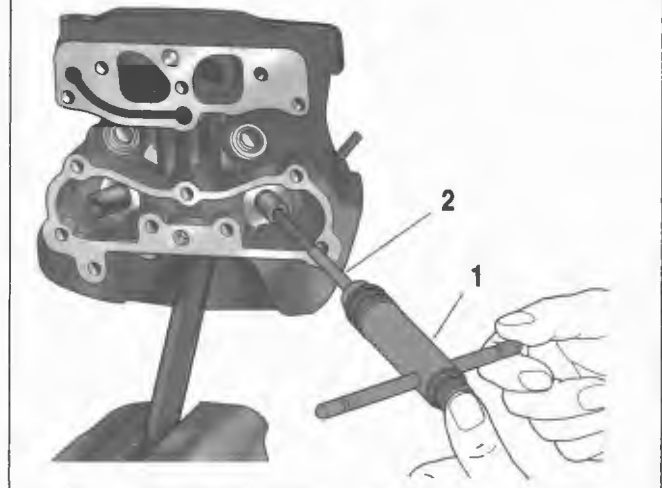

Figure 3-104. Reaming Valve Guide Bore
5. See Figure 3-104. Obtain the VALVE GUIDE REAMER (Part No. B-45523), REAMER T-HANDLE (Part No. HD-39847) and REAMER LUBRICANT (Part No. HD-39964).
- a. Install T-handle (1) on reamer (2).